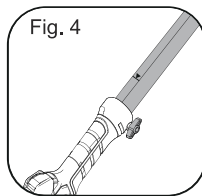

Fig. 4
3. Rotate the extension handle lock clockwise to secure the rear extension handle. (Fig. 4)